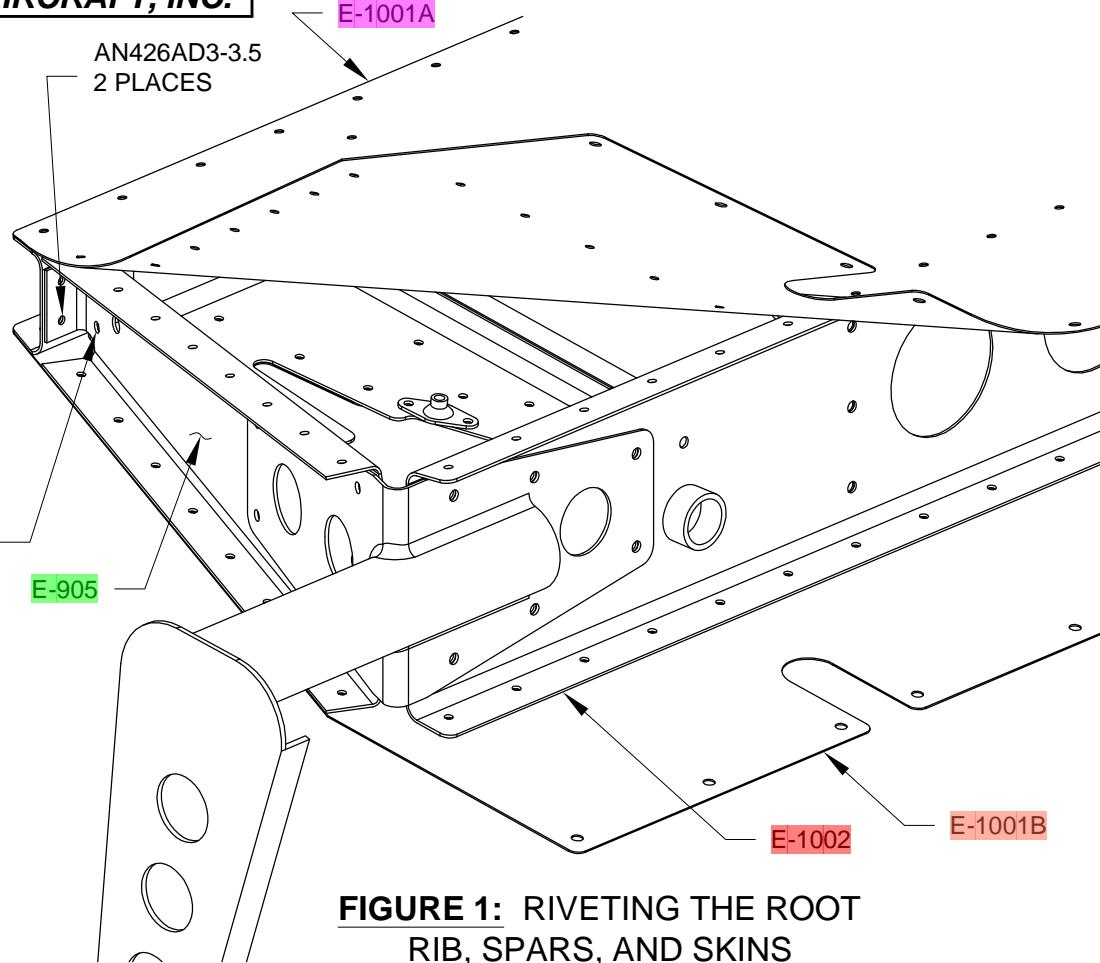

FIGURE 1: RIVETING THE ROOT RIB, SPARS, AND SKINS
Step 3: On this end of the elevator, rivet the E-1001 Skins to the flanges of the E-905 Root Rib and E-1002 Front Spar using the rivets shown on Page 9-20, Figures 1 & 2.